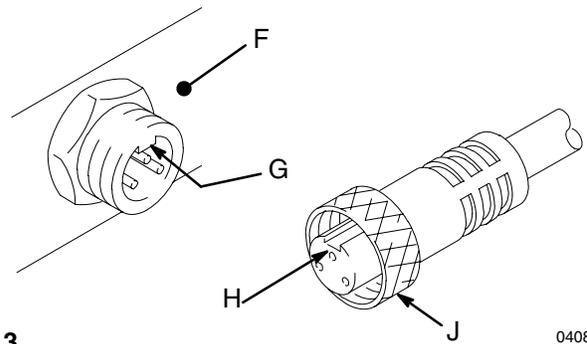

Fig 3 0408
3. Unscrew collar (J) of power supply cord and unplug it from pressure control (F). See Fig 3.
6. Plug in the power cord so the notch (H) in the collar (J) and the tab (G) in the socket align. Screw on the collar. See Fig 3.